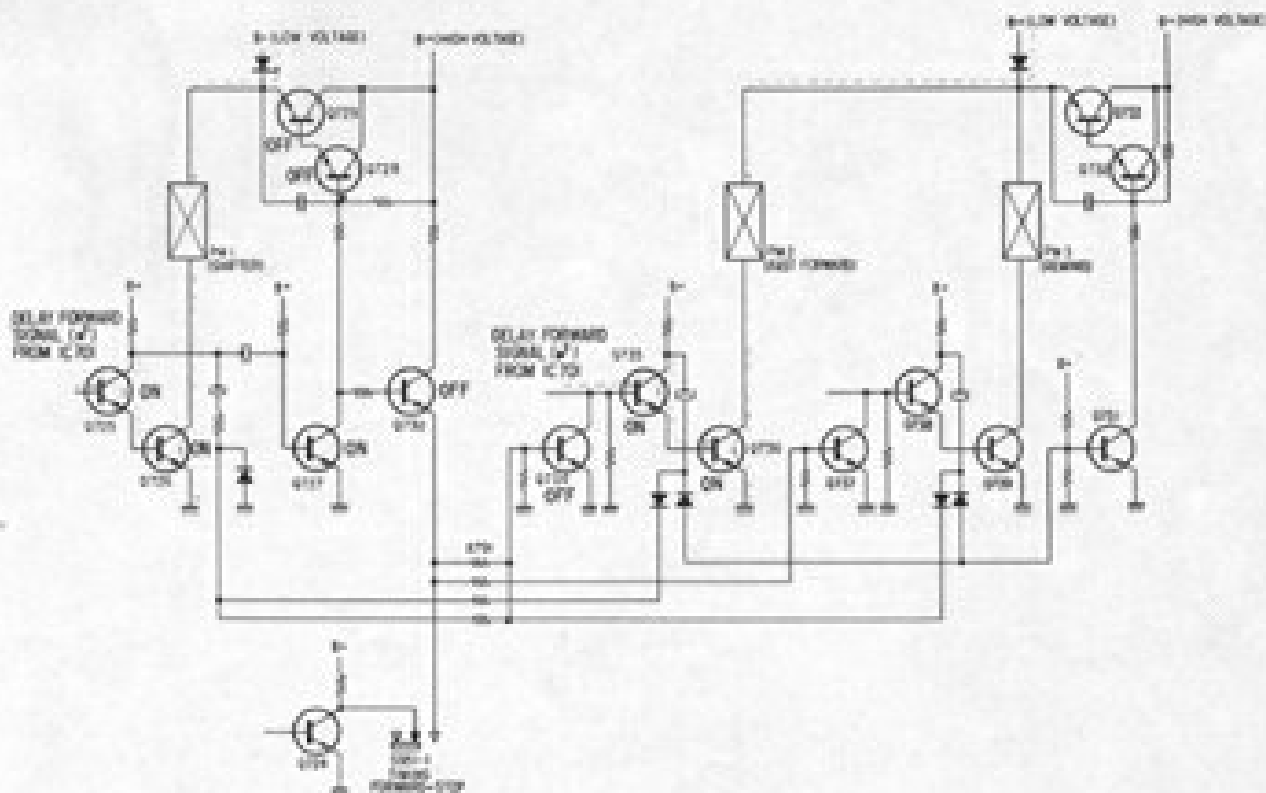

Fig. 1-3 Forward mode Commenced
- After discharging C720, Q727 turns ON. (See Fig. 1-3). Consequently, Q728, Q729, Q730 and Q734 turn OFF, and Q735 and Q736 turn ON, so PM2 is energized. (Q731, Q732 and Q733 constitute the solenoid kick circuit. See the circuit description of EL-7).